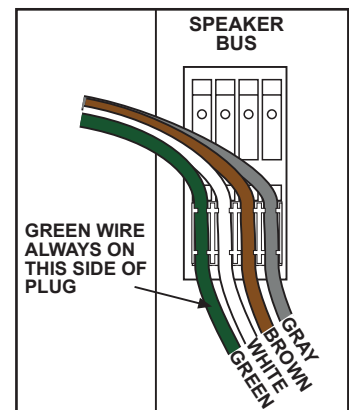

Figure 31. Keyed Speaker Bus port.
- Be careful to maintain correct polarity as shown in *Figure 31*.